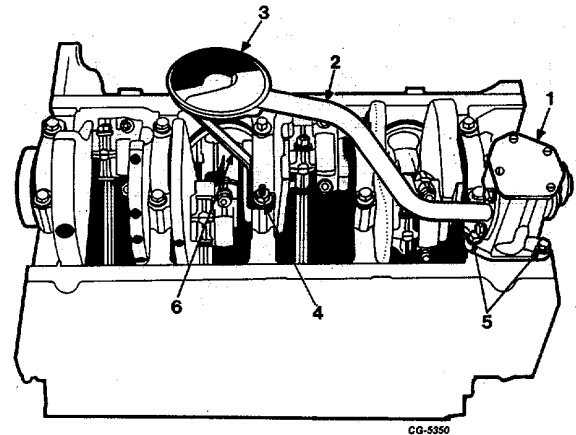

Fig. 57 Oil Pump Removal
63. Remove oil pump and pick up tube mounting bolts and nut, Figure 57. Lift oil pump and withdraw pump drive shaft from cylinder block.